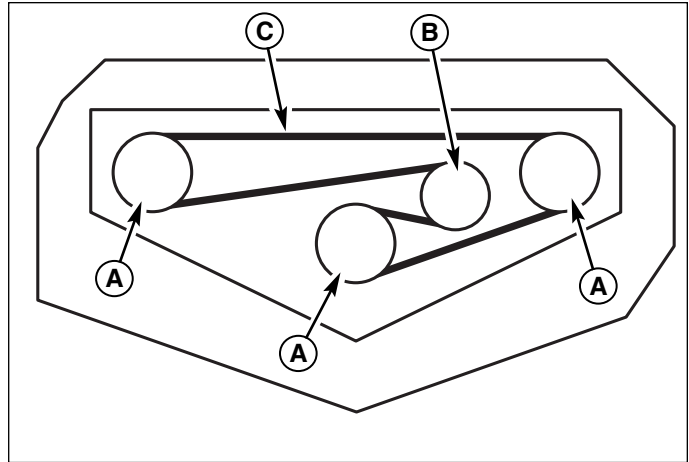

Figure 21. Spindle Drive Belt Removal
2. Make sure the V-side of the belt runs in the pulley grooves (Figure 21).